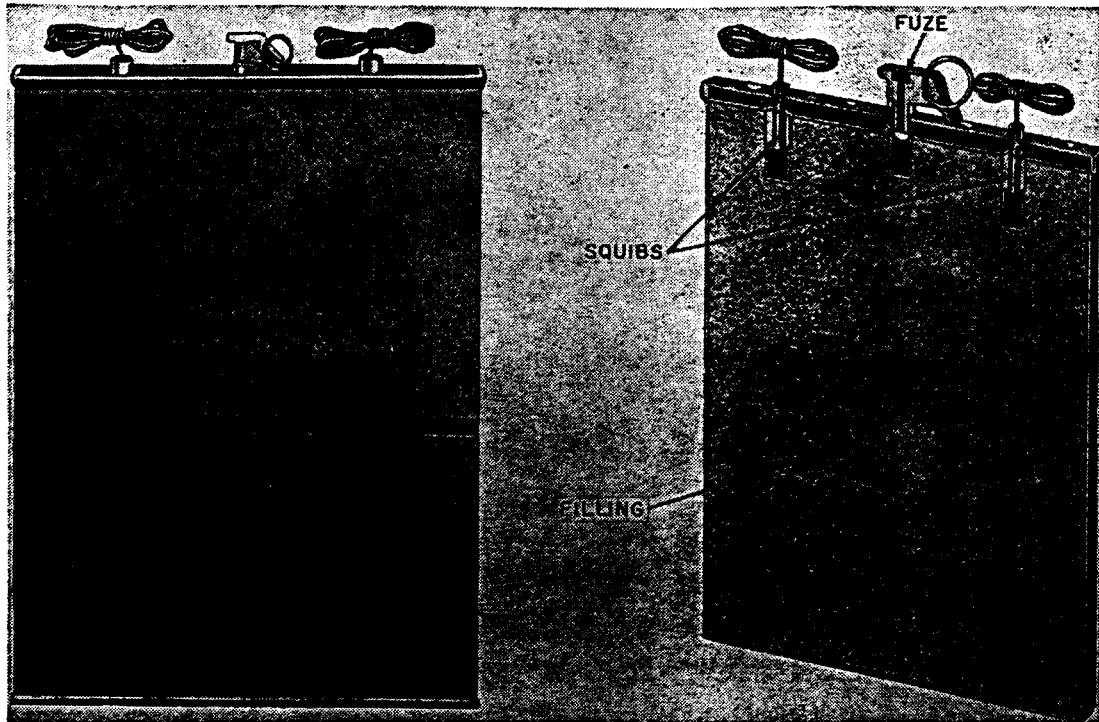

Figure 32. M1A1 TH1 safe destroying incendiary.
a. *Use.* The M1A1 safe destroying incendiary (fig. 32) is designed for the sole purpose of destroying cryptographic equipment CSP 2900, SIGROD, or ASAMI-1, stored in the Signal Corps CH-76 two-section safe. It is authorized for issue only outside the zone of interior. It cannot be used to destroy papers or other materials in field safes, since it does not supply oxygen. This incendiary is limited standard and is being replaced by the M1A2 safe destroying incendiary (par. 94).